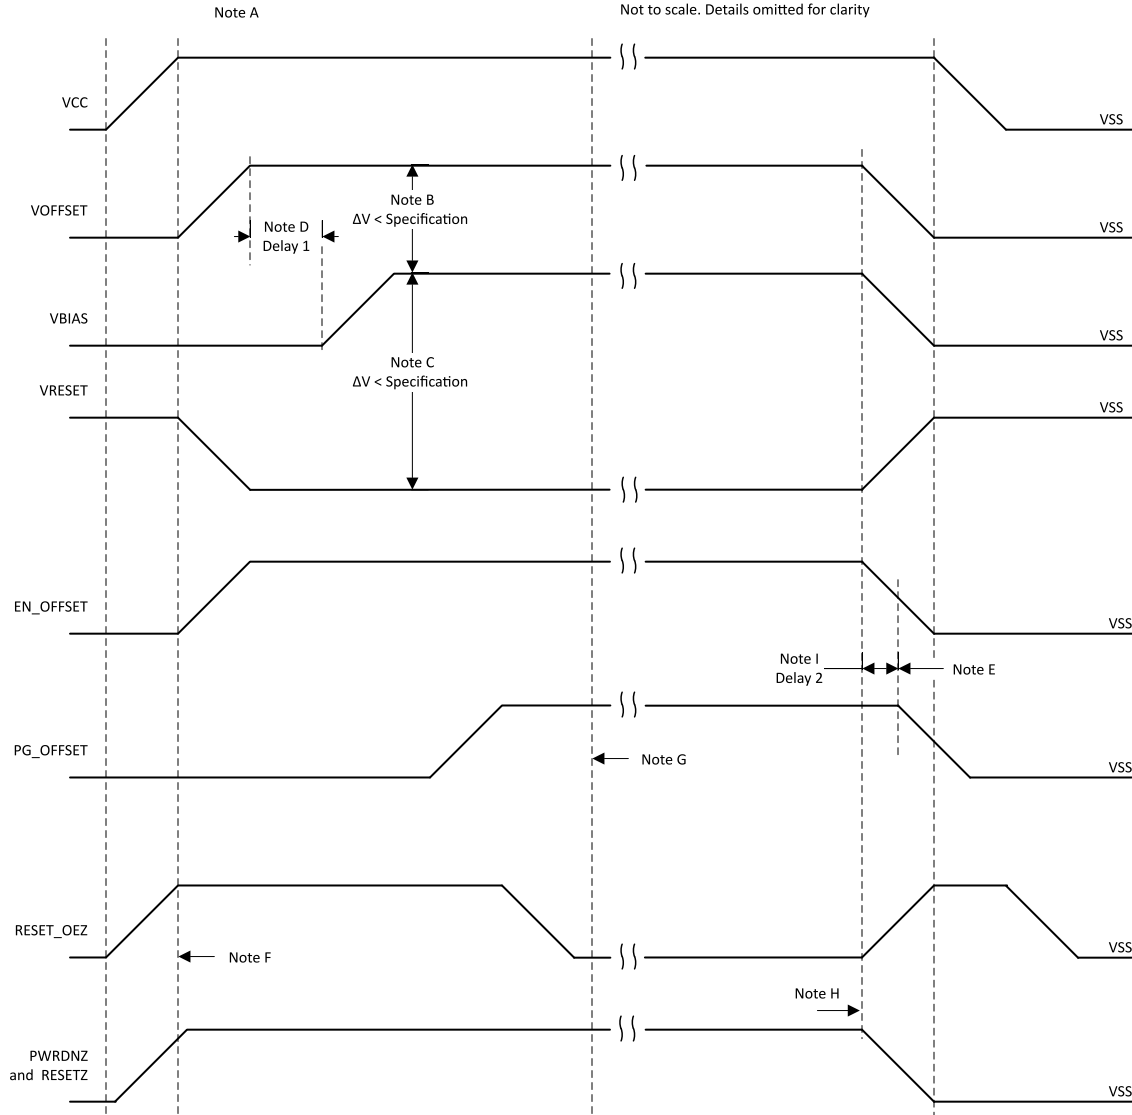

Figure 9-1. DMD Power Supply Requirements
For reliable operation of the DMD, the following power supply sequencing requirements must be followed. Failure to adhere to any of the prescribed power-up and power-down requirements may affect device reliability. See Figure 9-1.
- Power supply slew rates during power-up are flexible, provided that the transient voltage levels follow the requirements specified in Section 6.1, in Section 6.4, and in Figure 9-1.
- Power supply slew rates during power-down are flexible, provided that the transient voltage levels follow the requirements specified in Section 6.1, in Section 6.4, and in Figure 9-1.